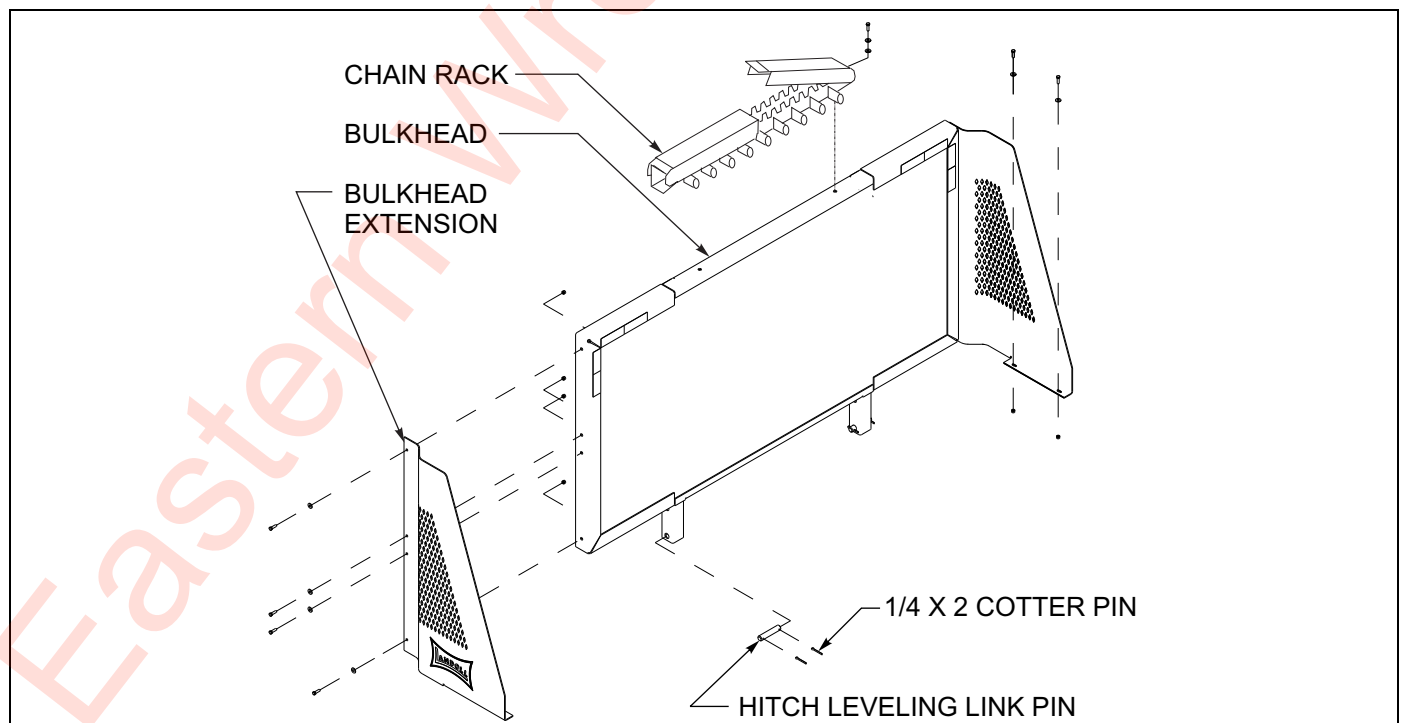

Figure 3-12: Bulkhead (Option)
1. Optional bulkheads may come with or without chain racks. To remove a bulkhead, disconnect the electrical harness (if work lights are present), remove retaining pins holding the bulkhead into the pockets on the semitrailer front and bolts and nuts attaching the bulkhead extensions and supports to the deck, and lift the bulkhead off (See Figure 3-12.)